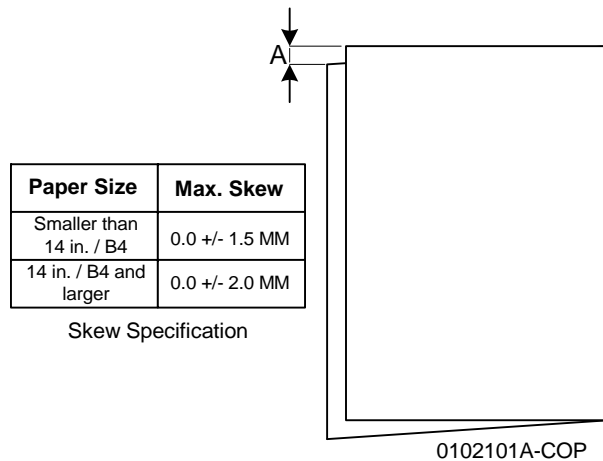

Figure 1 Skew Specification
2. Measure the skew (A) on all sheets of paper and verify against the Skew Specification table in Figure 1.